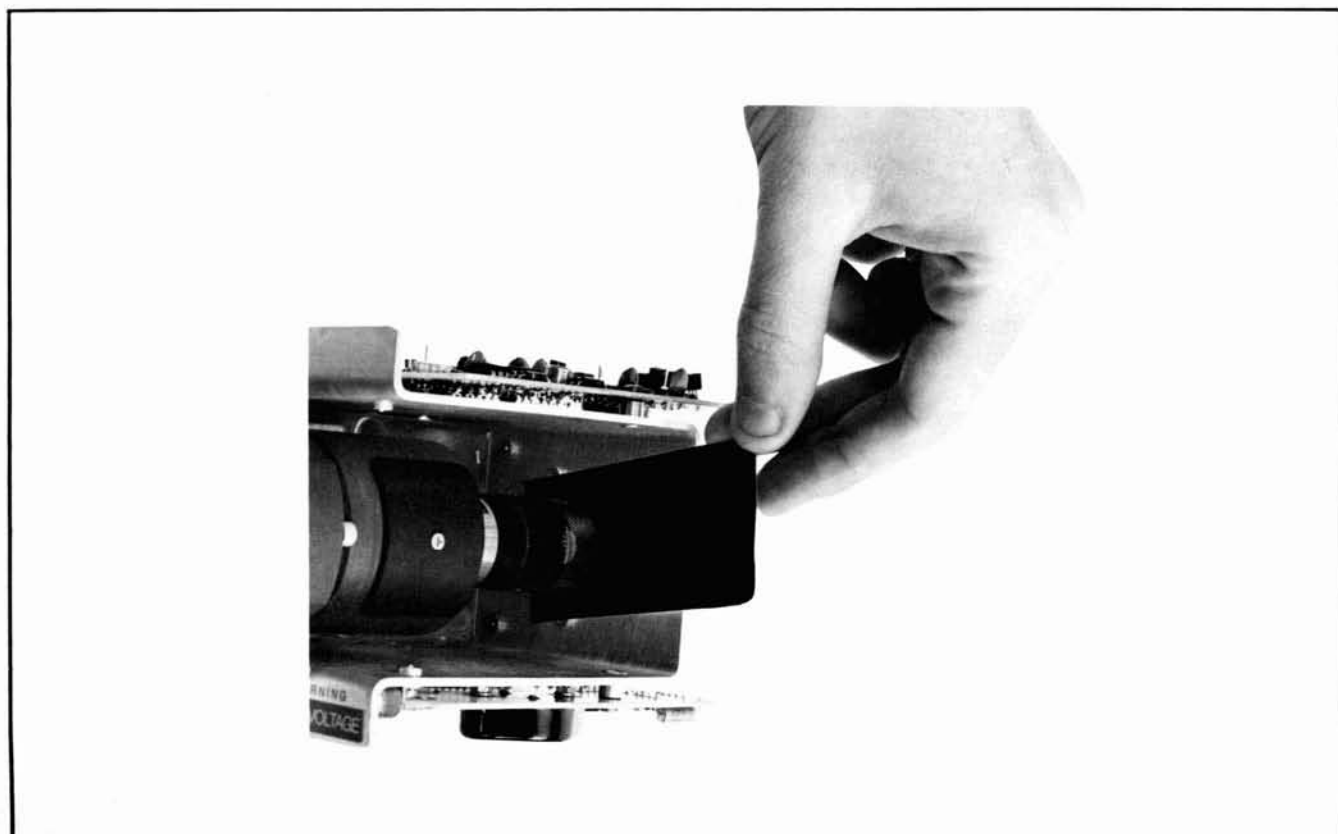

Figure 4-5. Laser Beam Blocking Method
- a. Block laser beam as shown in Figure 4-5.